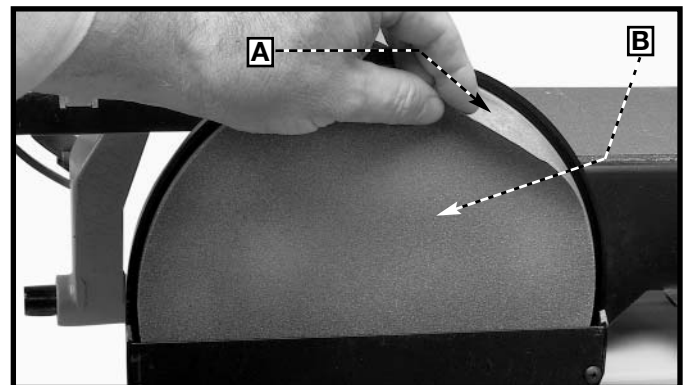

Fig. 12
1. Clean the sanding disc plate (A) Fig. 12.
2. Peel the backing from the sanding disc (B) Fig. 12. Press the disc firmly into position on the sanding disc plate (A).